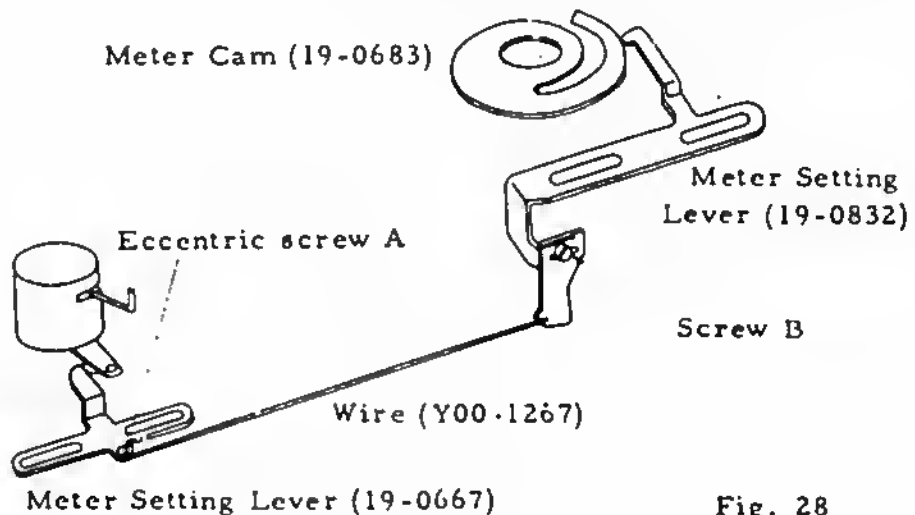
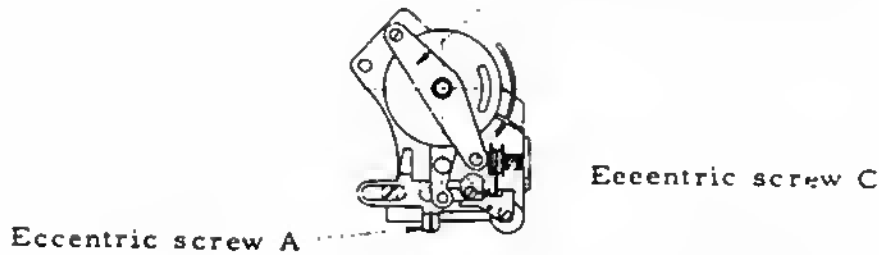

Fig. 28
Fig. 29
- 2) Set the eccentric screw A (Fig. 28) to its position.
- 3) At ASA 100 1/125 sec, the inscribed line of Meter Holder (13-9781) coincides with that of Meter Cover. In this case, the lever of Meter becomes perpendicular. See Fig. 29. Make adjustment by turning the screw B. See Fig. 28.
- 2) The Meter needle must align at the center of the Following Needle at the specified brightness. See Fig. 30. Make adjustment with the eccentric screw A (Fig. 29).
Adjust it with eccentric screw C (Fig. 29).